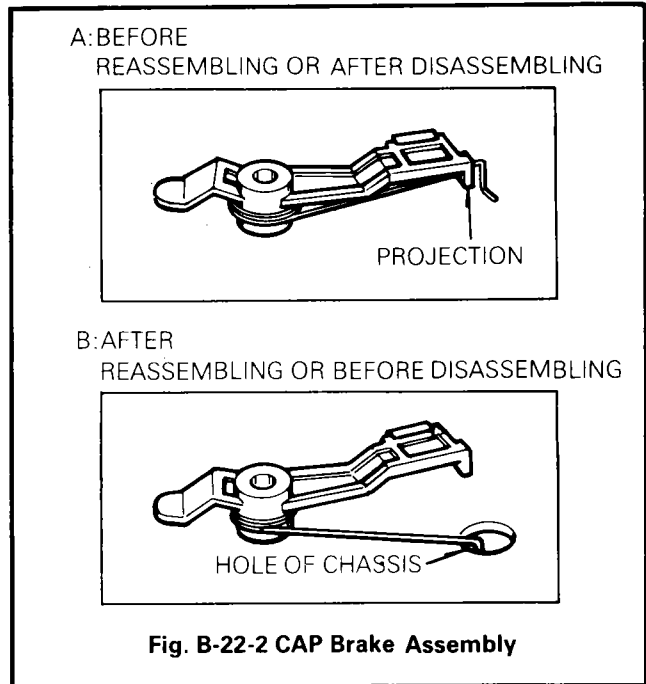

Fig. B-22-2 CAP Brake Assembly
- 2) Hook the end of Capstan Brake Spring to the projection of Capstan Brake and then remove the Capstan Brake Assembly by lifting it up(Fig. B-22-2).